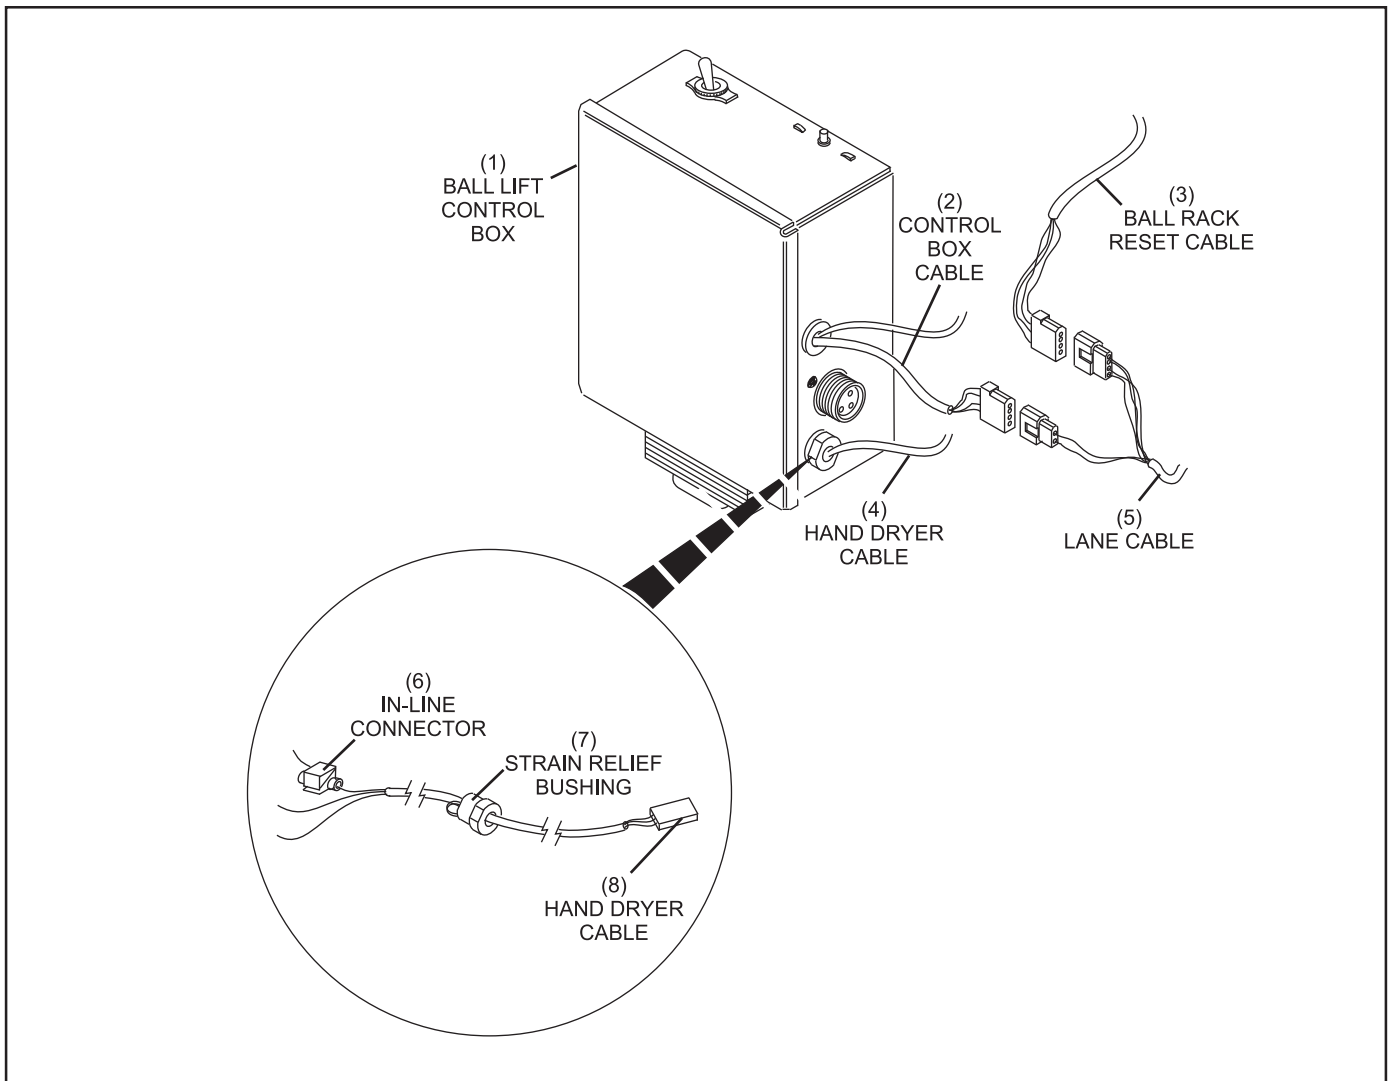

Figure 15. Drill Hole in Control Box
1. Drill a 21/32" (18mm) in the ball lift control box on the side with the most open area. Remove all metal debris left from the drilled hole. Refer to *Figure 15*.
2. Slide the strain relief bushing onto the hand dryer cable assembly with the white red and black wires. Six to eight inches (152mm to 203mm) of the wire should extend beyond the bushing. Refer to *Figure 15*.